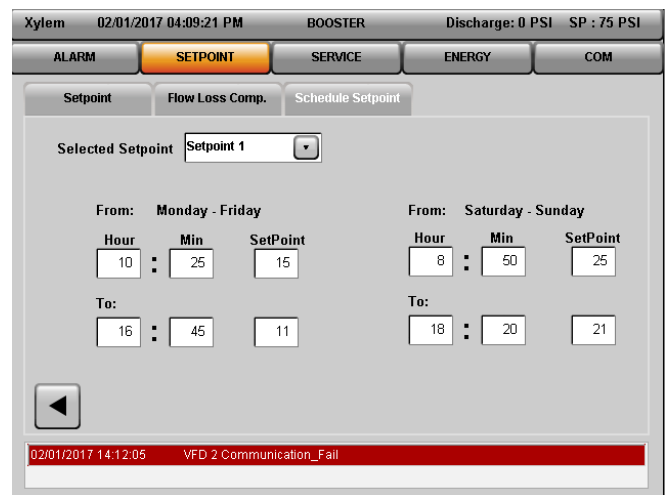

Figure 5.4.4 – Scheduled Setpoint Page
- **Schedule Setpoint** - When Schedule Setpoint is selected as Control Setpoint option, then Setpoint is considered from Setpoint value(s) entered on Schedule Setpoint page as shown in Figure 5.4.4.
When Schedule Setpoint is selected as Control Setpoint option, then Setpoint is considered from Setpoint value(s) entered on Schedule Setpoint page as shown in Figure 5.4.4.